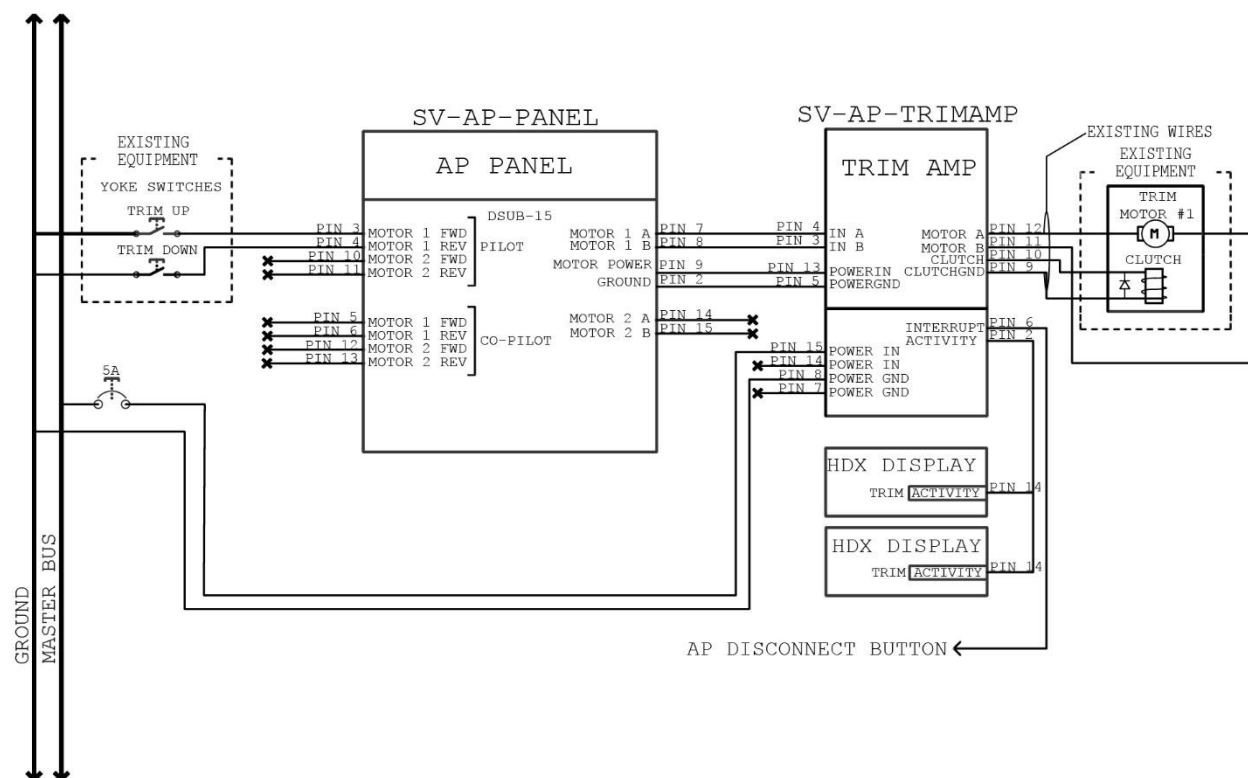

Figure 239 – SV-AP-TRIMAMP Electrical Installation for Motor 1 (Motor 2 Similar)
3. Route SV-AP-TRIMAMP harness as follows (also see Figure 239):
5. Use insulated connectors to connect SV-AP-TRIMAMP harness as follows (also see Figure 239):